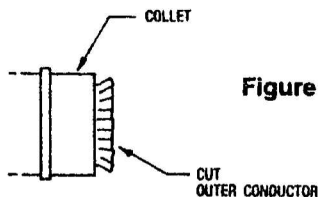

Figure 4.
- Make 1/8 inch deep slits into the copper outer conductor down toward the collet with light metal snips. Space the cuts 1/8 inch apart. See Figure 4.